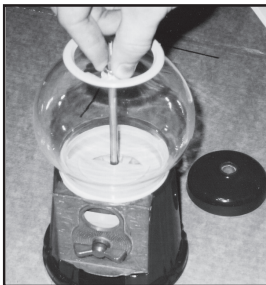

Figure 3
1. Loosen screws on the Adjustment Wheel (8). Adjust the size of the opening to the desired amount of Gumballs to be dispensed. Tighten screws and replace assembly. **See Figure 3.**